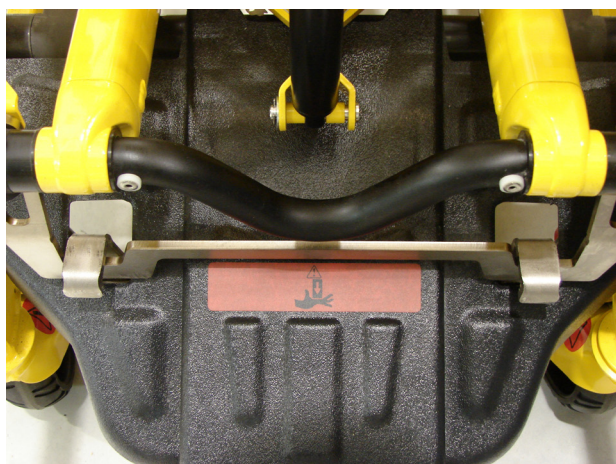

Figure 7 - Cot in Fastener (Head End)
3. Check to be sure the cot is securely fastened at both the head and foot end before releasing your grip on the cot (see Figure 7).